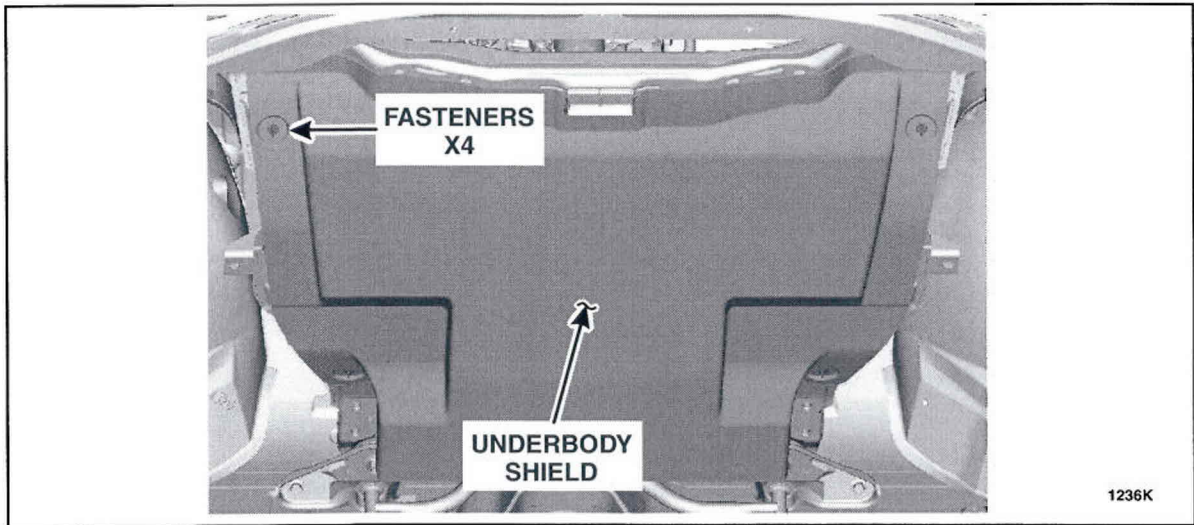

FIGURE 9
14. Loosen the four fasteners and remove the underbody shield. See Figure 9.
2. Install the underbody shield and tighten the fasteners. See Figure 9.